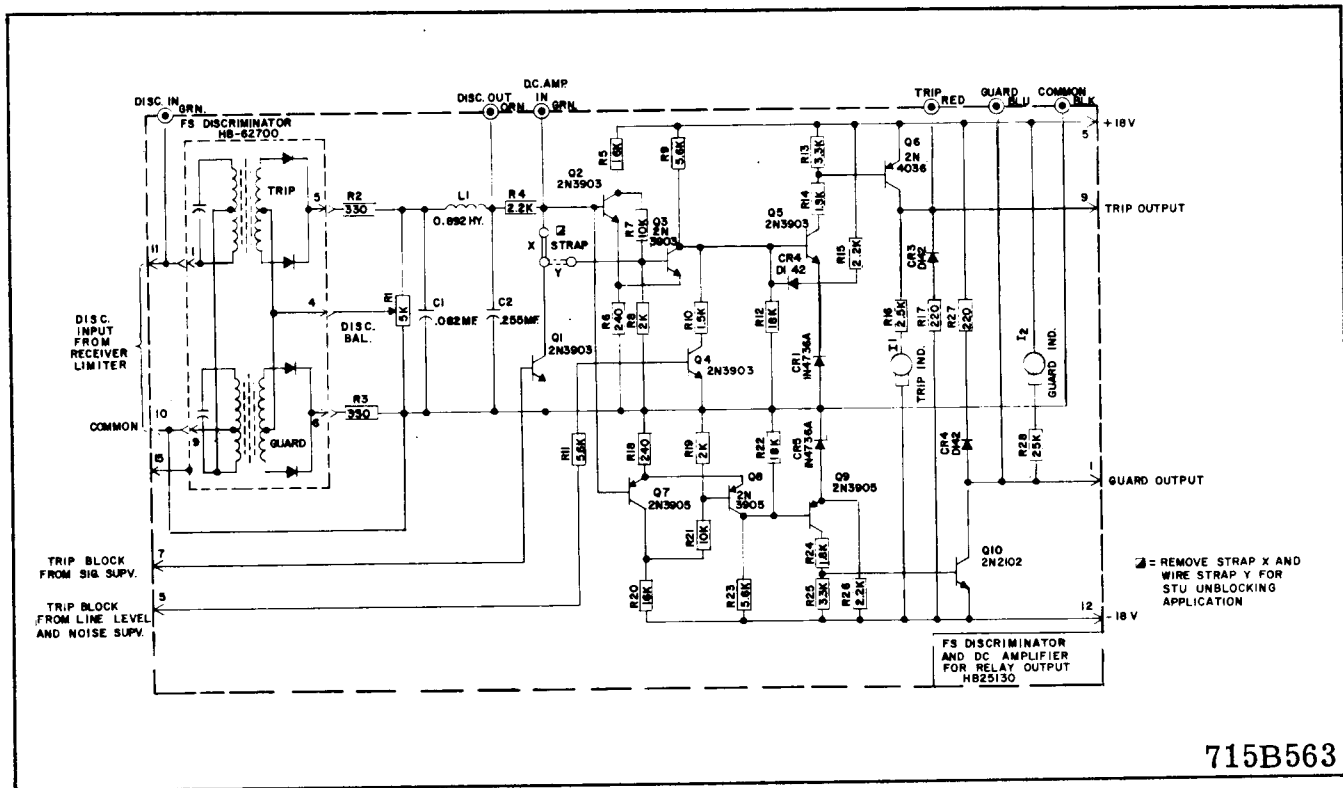

Fig. 13. F.S. Discriminator and D-C Amplifier for Relay Output HB-25130.
1. Receiver Input Filter HB63100 (See Fig. 13)
A filter is provided to pass only the desired incoming signal to the receivers. One is needed for each receiver. Typical receiver filter characteristics are shown in Figure 13.